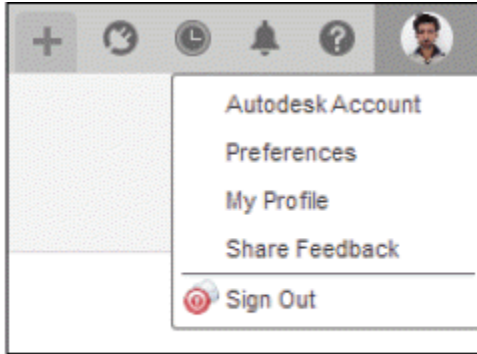
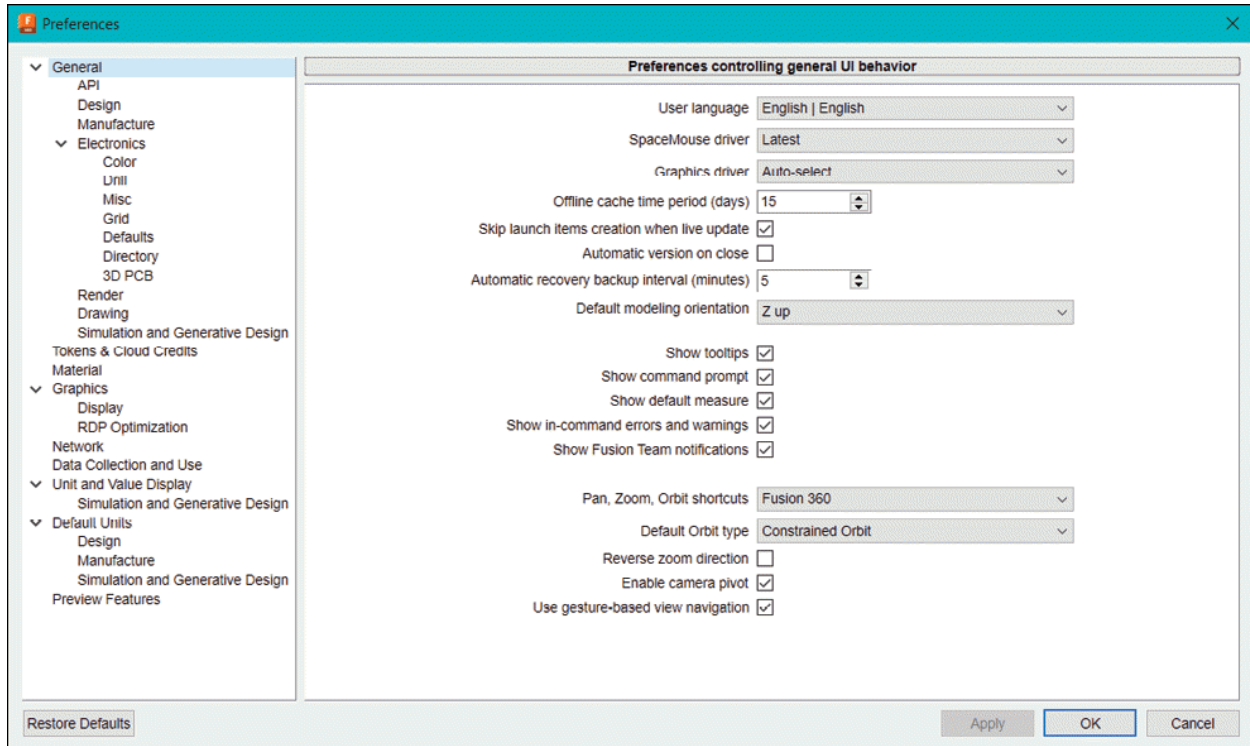

Figure-88. User Account drop down
Figure-89. Preferences dialog box
The tool in **User Account** drop-down are used to manage user account details and preferences for Autodesk Fusion 360; refer to Figure-88. The tools in this drop-down are discussed next.
- Click on **Preferences** tool from **User Account** drop-down; refer to Figure-88. The **Preferences** dialog box will be displayed where you can specify various parameters for application; refer to Figure-89.